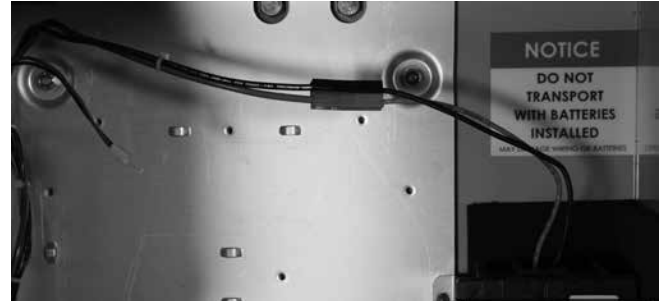

Figure 44. Battery connector
2. Disconnect the control wiring to the battery(s) that will be replaced (Figure 44).
- Reconnect control wiring to replacement battery(s) (Figure 44).
- Disconnect the control wiring to the battery(s) (Figure 44).
- B. Disconnect the control wiring to the battery(s) (Figure 44).